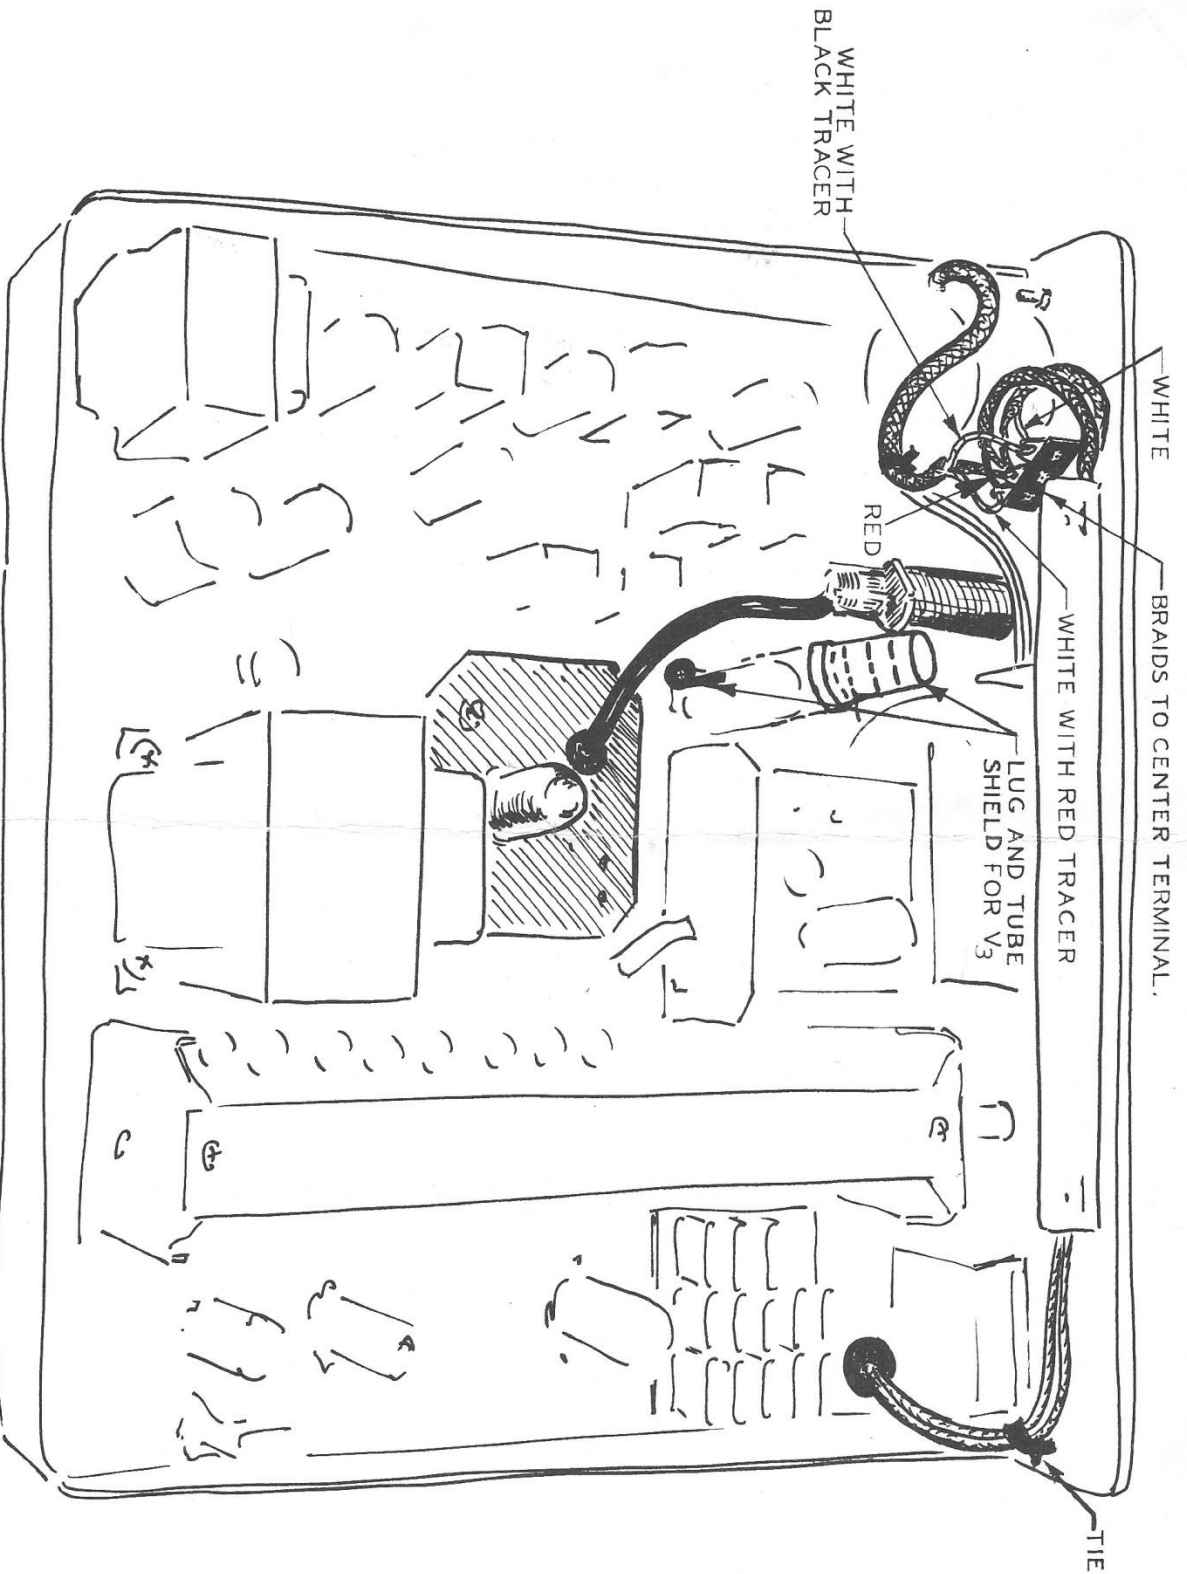

FIG. 1 TOP VIEW 75S-1
5. Mount the three lug terminal strip supplied on the top left S-meter stud using the nut presently on this stud. Orient the terminal strip at about 45° . (See Fig. 1).
14. Use the red tie provided to tie the two shielded leads to the wires running to the switch to prevent the shields from shorting to the switch. (See Fig. 1).
15. Remove rear screw from socket for V-3 and attach grounding lug per Figure 1. Replace screw and nut, and install tube shield around the tube and the grounding lug.